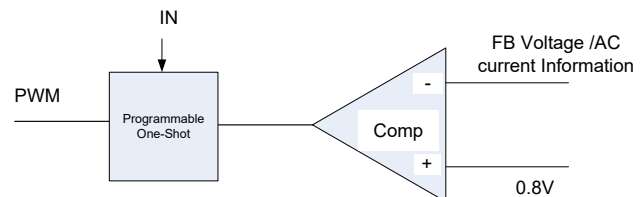

Figure 2. Simplified Control Schematic of AOZ2260AQI-10
The simplified control schematic is shown in Figure 2. The high-side switch on-time is determined solely by a one-shot whose pulse width can be programmed by one external resistor and is inversely proportional to input voltage (IN). The one-shot is triggered when the internal 0.8V is higher than the combined information of FB voltage and the AC current information of inductor, which is processed and obtained through the sensed lower-side MOSFET current once it turns-on. The added AC current information can help the stability of constant-on time control even with pure ceramic output capacitors, which have very low ESR. The AC current information has no DC offset, which does not cause offset with output load change, which is fundamentally different from other V2 constant-on time control schemes.